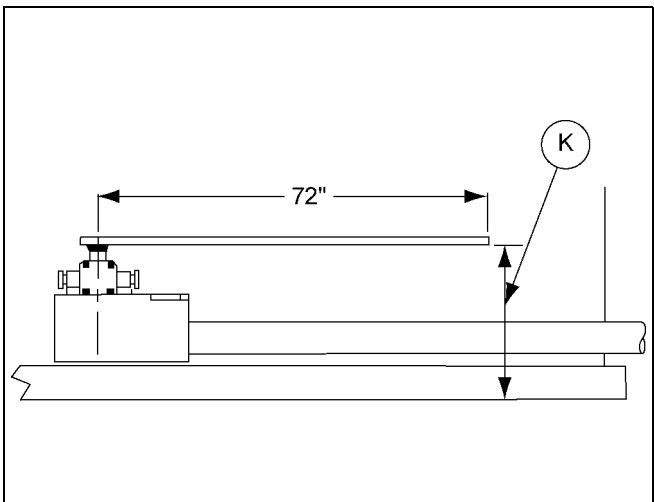
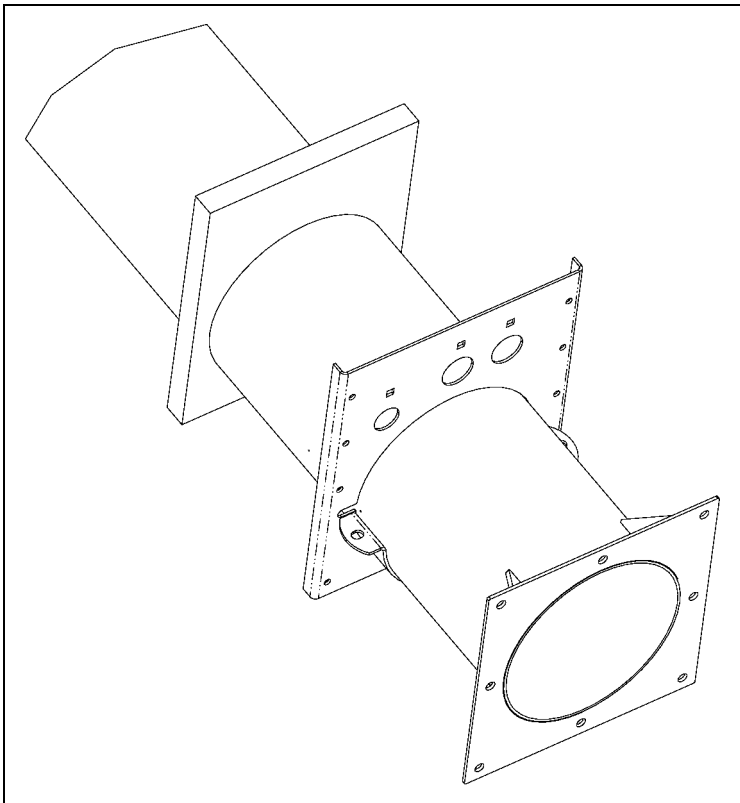

Figure 5H
Figure 5I
Check to make sure that the gearbox and sump is level. (See Figure 5H on Page 20.)
10. Slip the face plate and face seal onto the discharge auger tube. Next, insert the auger tube through the hole cut into the bin in Step 4 on Page 16. (See Figure 5H and Figure 5I on Page 20.)